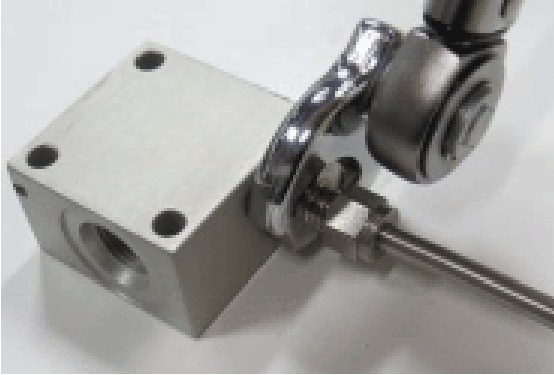

Figure 15: Torque the retainer nut to the PRD block.
- Use a torque wrench with a crows foot to torque the retainer nut to the PRD block as shown in Figure 15 to 20 ft-lbs. **Do not allow the trigger line to twist or kink.**
3. Install the bolts, clamps, and nuts that secure the trigger line to the rail (Figure 15). Quantity is dependent on length of trigger line.